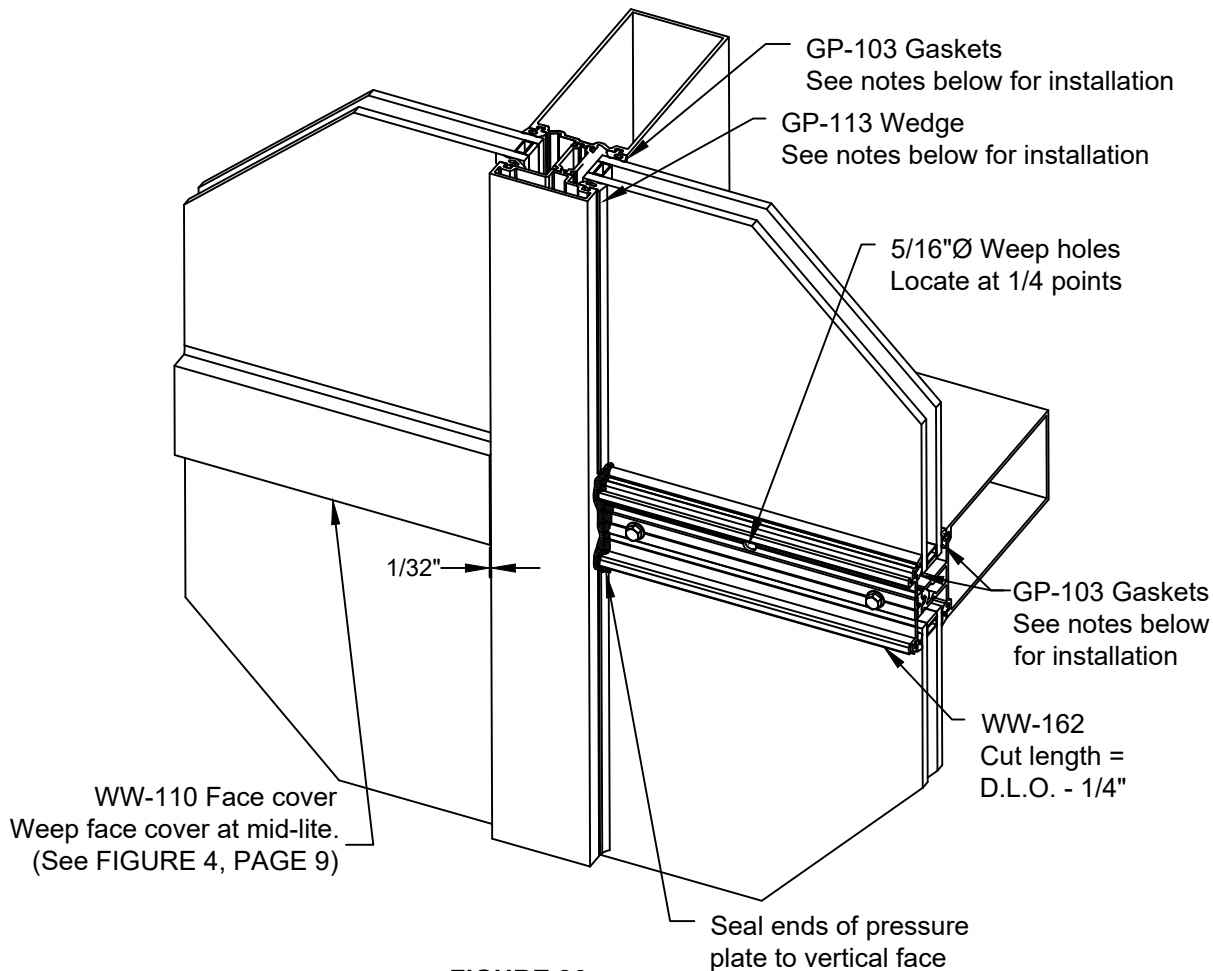

FIGURE 26
3.14 Seal ends of horizontal pressure plates to the verticals. Tool sealant into the joint. **SEE FIGURE 26.**